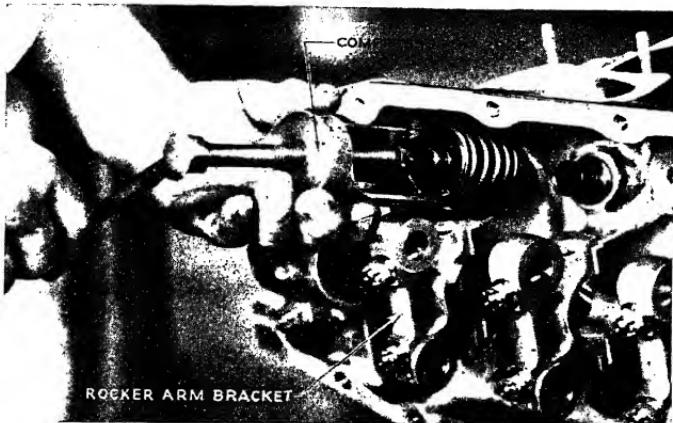

FIG. 12.—Using spring compressor to remove valves.
**Valves.**—Valves can be easily removed and replaced by using a spring compressor, as in Fig. 12. This makes it easy to remove the spring retainers from the valve stems. The valves are then taken out through the cylinder. Valves are also replaced by reversing the process.